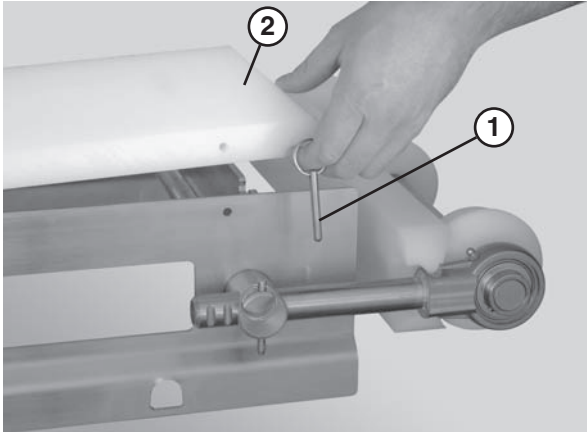

Figure 47
1. Remove the pull pins (**Figure 47, item 1**) that connect the guide (**Figure 47, item 2**) to the frame.